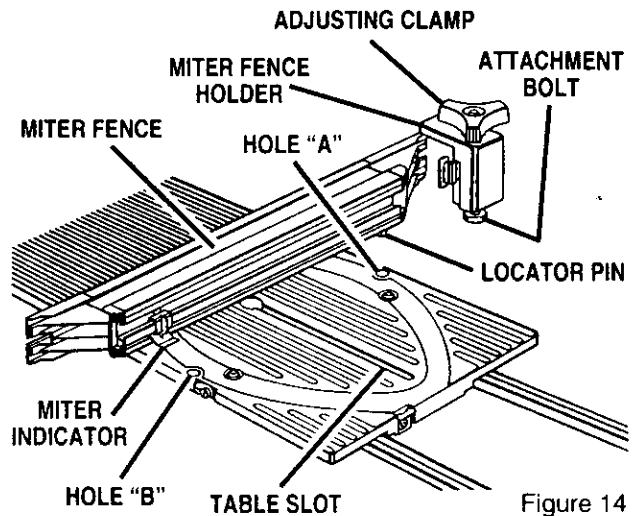

Figure 14
- To install the miter fence holder to the miter fence, loosen the attachment bolt by turning the adjusting clamp (the knob on top) counterclockwise. Make sure the adjusting clamp is loose enough so the bolt has enough clearance to slide in the table slot. Slide the tabs into the grooves in the miter fence. *See Figure 14.*